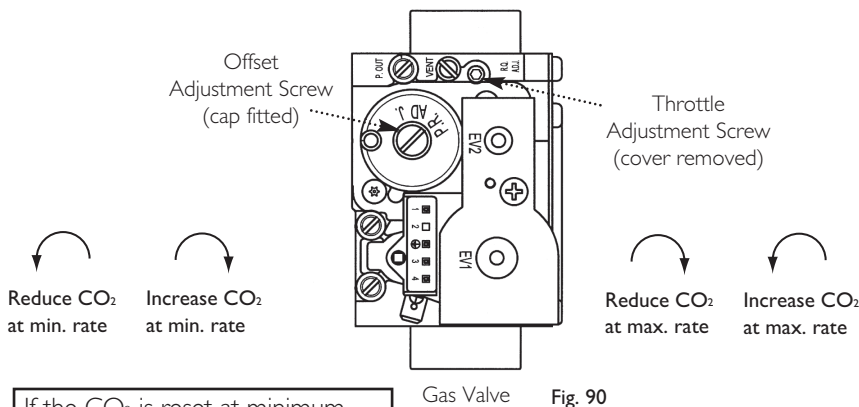

Fig. 90
8. It is possible to alter the CO₂ by adjustment of the gas valve. Remove the plastic cover from the Throttle Adjustment Screw. At maximum rate the Throttle Adjustment Screw should be turned, using a suitable hexagon key, until the correct reading is obtained (Fig. 90). Turning clockwise will reduce the CO₂. Anticlockwise will increase the CO₂.
10. With the boiler on minimum, the Offset Adjustment Screw must be altered, using a suitable hexagon key, after removing the cap (Fig. 90). Turning anti-clockwise will reduce the CO₂. Clockwise will increase the CO₂.